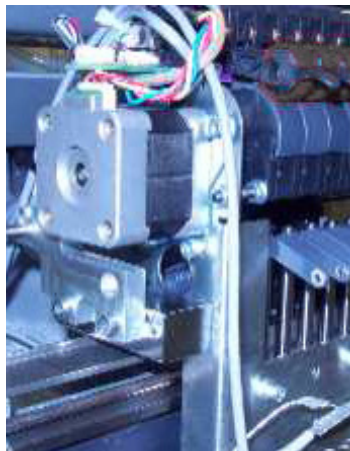

Figure 4 - Routing of Harness to Top of Needlecase
12. Run the harness to the left and then straight up and tie it at the top of the needlecase where the grabber motor harness is bundled. Pinch the harness with your finger to give it a 90 ° bend as shown in Figure 4 above.